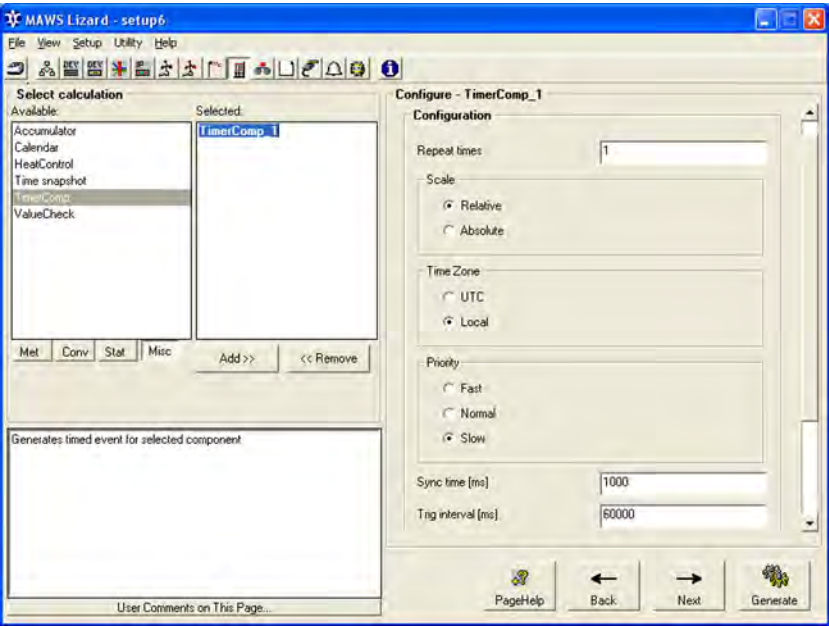

Figure 103 Calculations View: Configuring Timer Option
1. In the **Calculations** view, click **Misc** to list the available options; see Figure 103 on page 202.